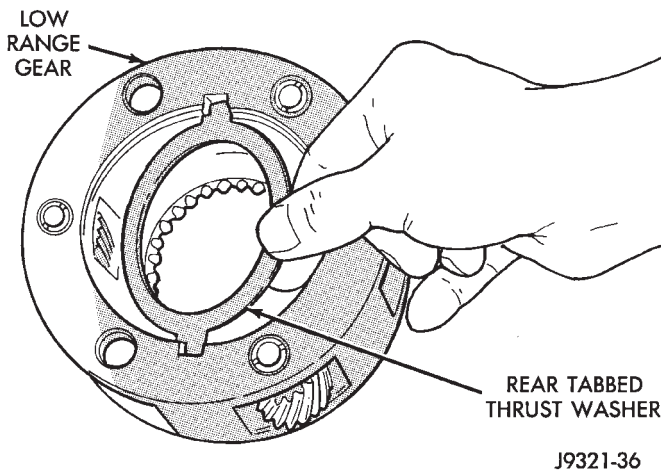

Fig. 39 Rear Tabbed Thrust Washer Removal
(5) Remove rear tabbed thrust washer from low range gear (Fig. 39).